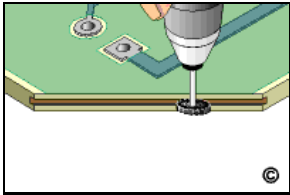

Figure 2: Cut a groove into the edge of the board with a Saw or Slotting Saw Bit.
- 4B. Install a Slotting Saw Bit into the Micro-Drill System. Set the speed to maximum and machine a groove in the edge of the circuit board. Center the cut on the thickness of the circuit board and cut into the edge .040" (1.00 mm) deep. (See Figure 2).